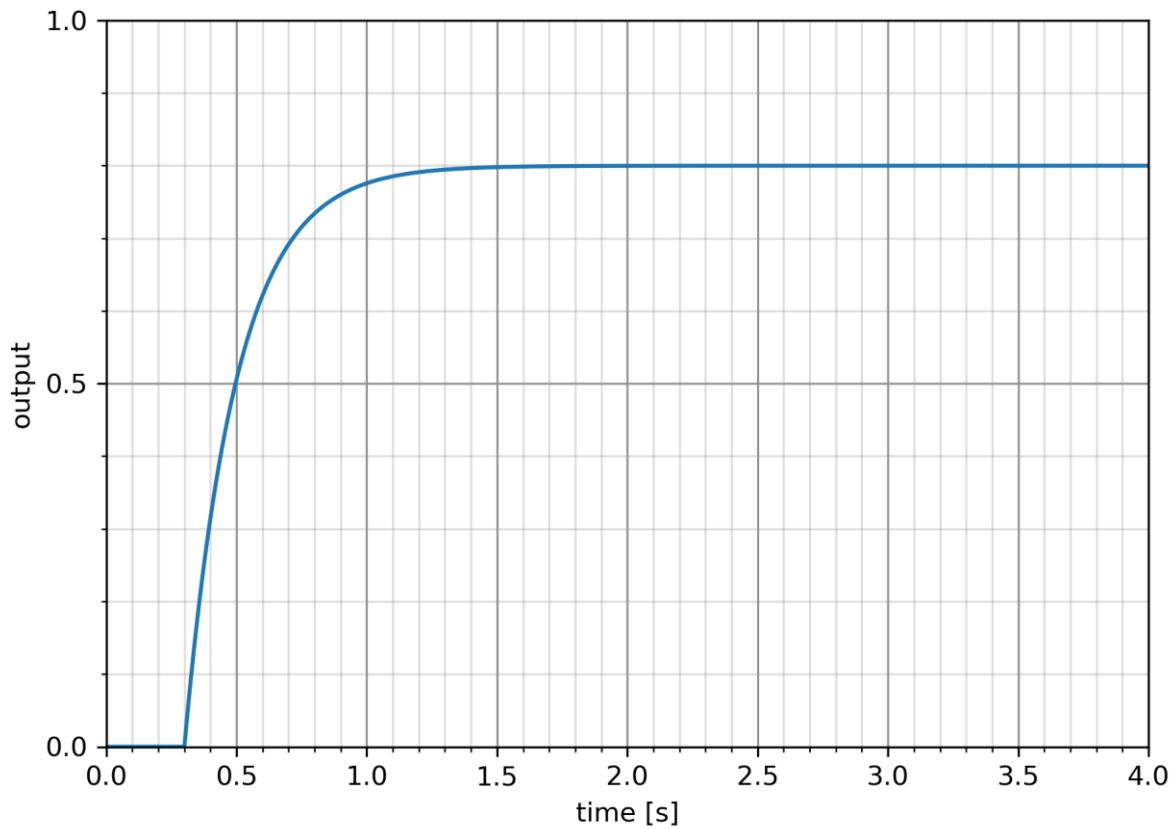

Figure 2.A: unit step response
- A) [6 marks] A first-order system produces the output shown in figure 2.A in response to a unit step. Identify a transfer function for this system. You may model the dead time using a first-order Pade approximation.